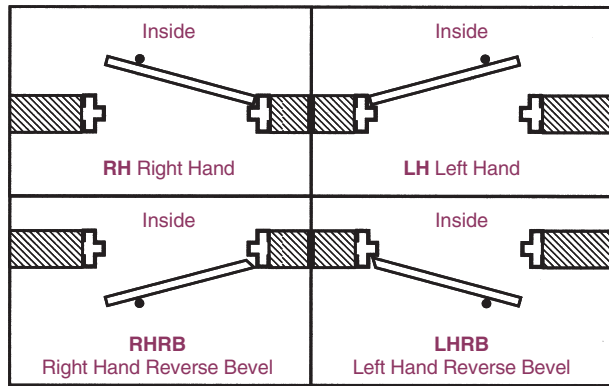

FIGURE 7.9 Door handing.
In the case of a pair of doors, hand is determined from the active leaf in the same way. If prehung doors are specified, door handing should be included. (See Figure 7.9.)
The hand of a hinge is determined from the outside of the door to which it is applied. Usually if the locked side of the door opens away (into the area) to the right, it takes a right-hand hinge (also referred to as RH). If it opens to the left, it takes a left-hand hinge (LH). (See Figure 7.9.)